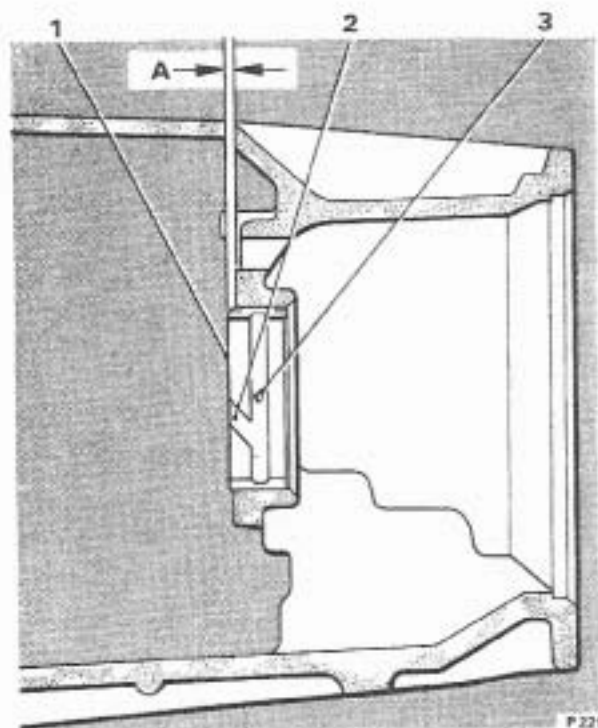

FIG. T291 FITTING A NEW CASE BUSH
If the case bushing is found to be worn or scored fit new bushing (see Fig. T291).
1. Support the transmission case and using tool J-21465-9, drive handle J-8092 and extension J-21465-13. Press or drive the bush into the case until 0.040 in. (1,016 mm.) to 0.055 in. (1,307 mm.) above the selective thrust washer-face (see Fig. T291).